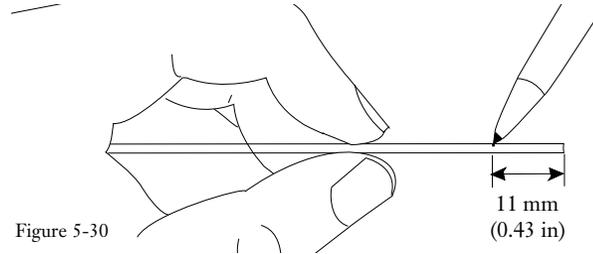

Figure 5-30
**5.6-8** Measure and mark 11 mm (0.43 in) from the end of the outer jacket (Figure 5-30).